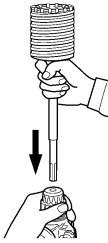

Fig. 18
(2) Mount the core bit to the rotary hammer (Fig. 18).